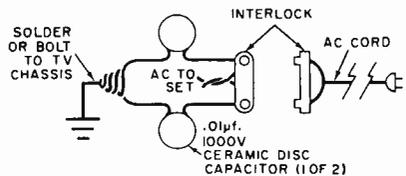

Fig. 2. Radiation into power line can be cured by bypassing to ground (the chassis) both sides of the a.c. line with capacitors.
**Wiring and Power Line Problems.** The next step is to prevent unwanted syncbugs from reaching your receiver via the a.c. cord of the TV set and the house wiring. To block this exit from the set, two .01  $\mu$ f., 1000-volt ceramic capacitors are placed across the a.c. line to ground at the point where the line leaves the TV chassis. With most TV sets, the power connection is made through a simple interlock mounted at the rear. It may be possible to solder the capacitor leads to the back of the plug pins (see Fig. 2), or a bit of insulation can be removed from the power wires and the leads soldered to them. Tape the wires securely. Solder or bolt the other two capacitor leads to the chassis.